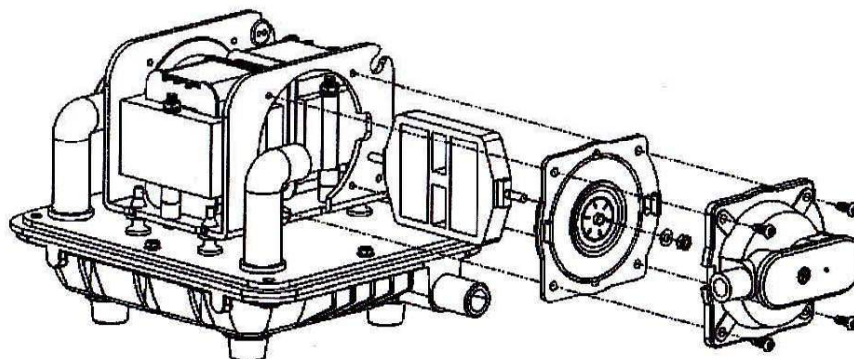

Figure 3
- B. Loosen the four screws and disassemble the parts. (As shown in figure 3)